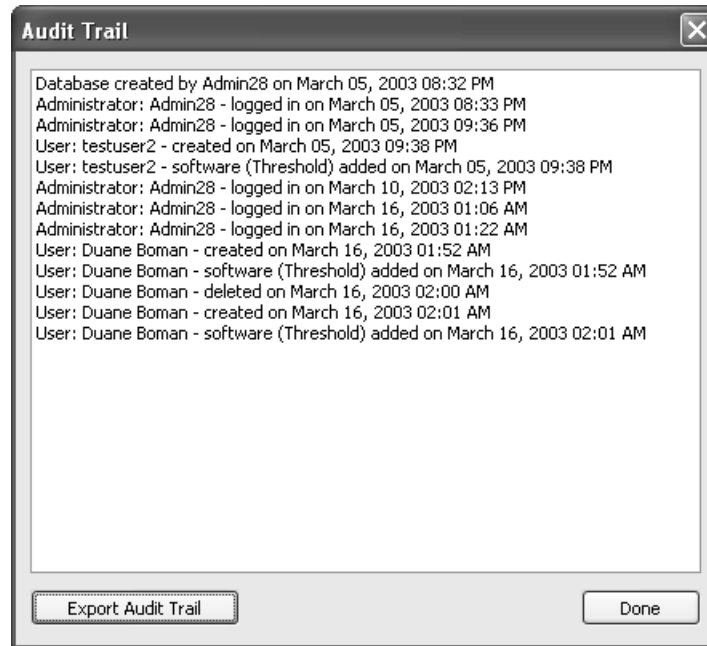

Figure 8-16: The Audit Trail Window
- 3) In the **Audit Trail** area, click **View Audit Trail**. This opens the **Audit Trail** window (Figure 8-16).